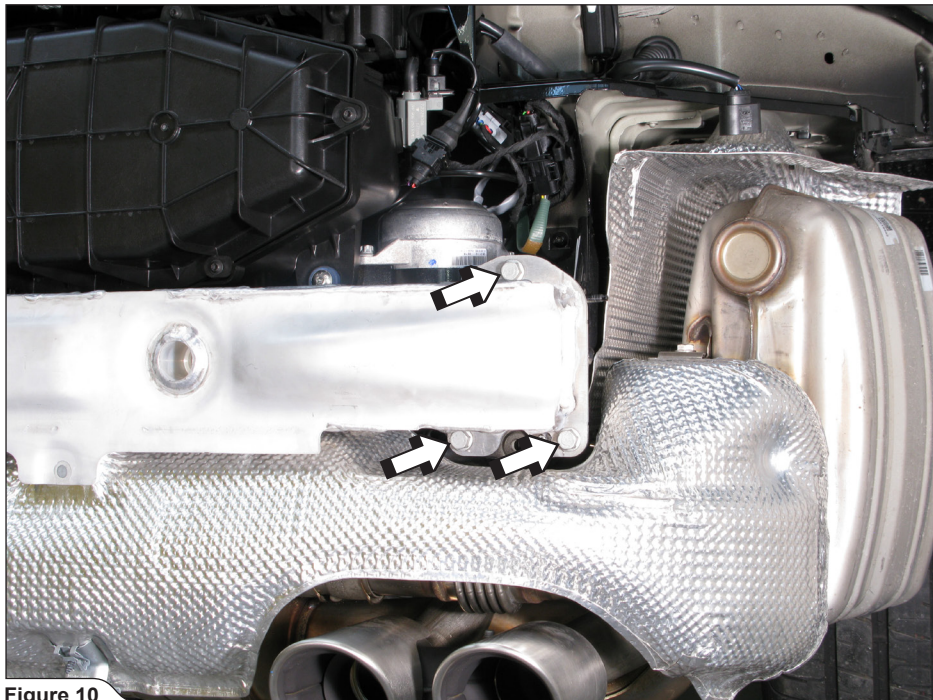

Figure 10
6. Unscrew the marked bolts on both sides of the vehicle and carefully remove the central muffler's heat shield (**Figure 10**).